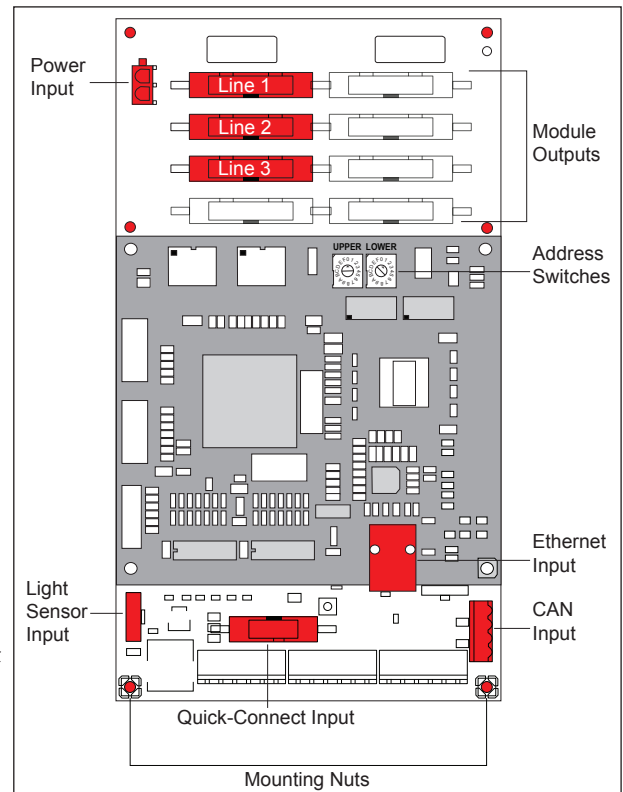

Figure 16: Typical Controller
2. Open the face panel. The controller, shown in **Figure 16**, is located in the lower-left corner of the primary display.